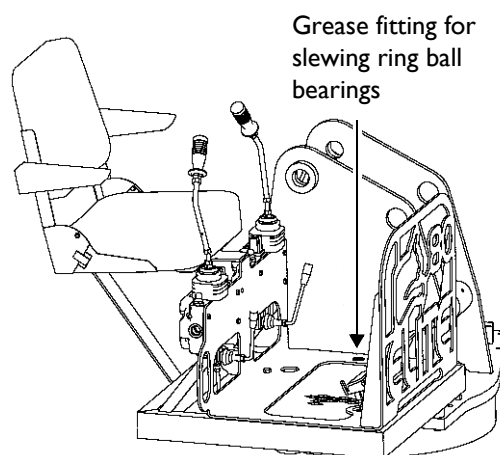

Figure 17
- Rotate the booms slowly while you pump the grease gun **6 times** during the rotation into the grease fitting on the floor of the loader's head (see *Figure 17*, below). Pump the grease evenly (1 pump every 60°).